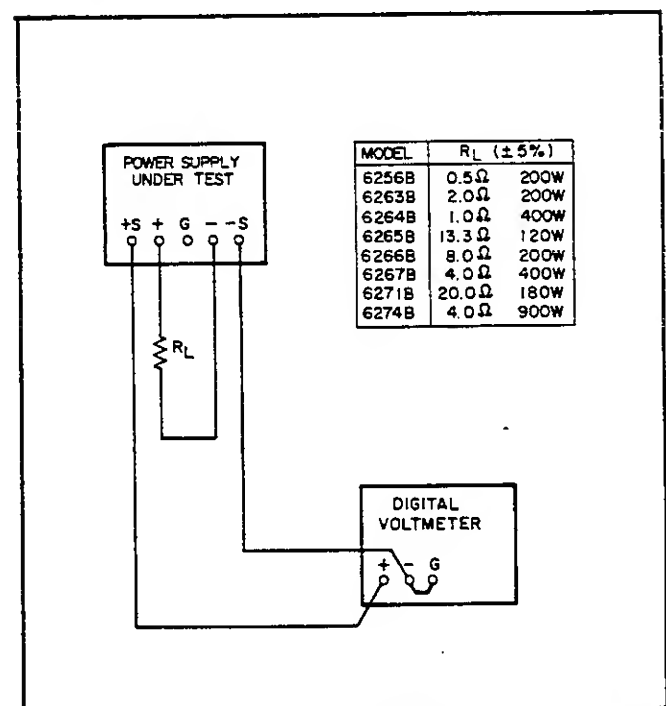

Figure 5-1. Constant-Voltage Load Regulation Test Setup
- Connect load resistor ( $R_L$ ) indicated in Figure 5-1 across output terminals of supply.
- Connect test setup shown in Figure 5-1.
- Connect load resistance and digital voltmeter as illustrated in Figure 5-1.